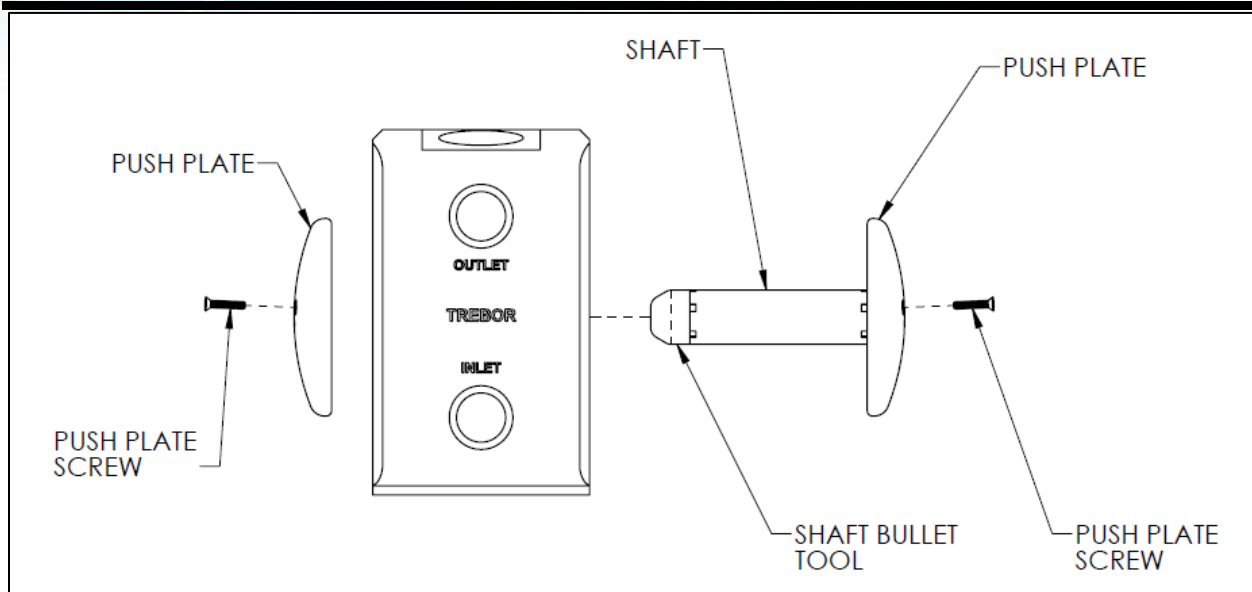

Figure 4-10
- Thread one push plate onto shaft until push plate bottoms out on shaft shoulder. (See Figure 4-10.)
- Insert shaft through shaft bore as shown in Figure 4-10.